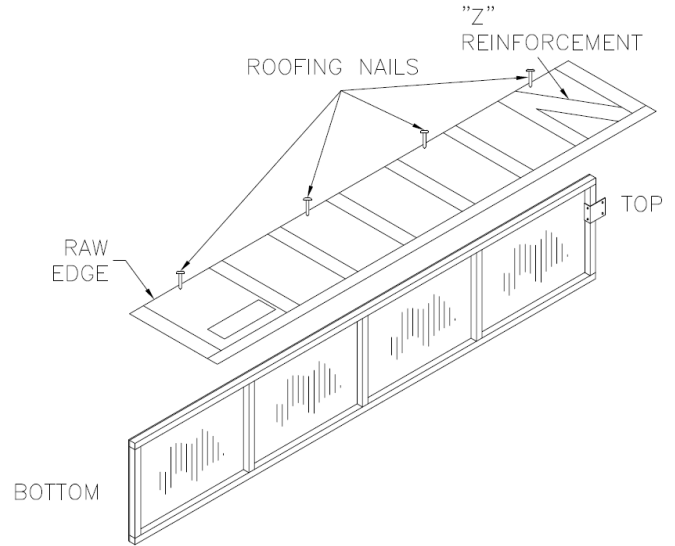

FIG. 5A
- **Place bottom of Vertical Panel flush with bottom of Vertical Frame** (Figure 5a).
- **Secure Vertical Panel** between stays with three (3) other evenly spaced Roofing Nails.